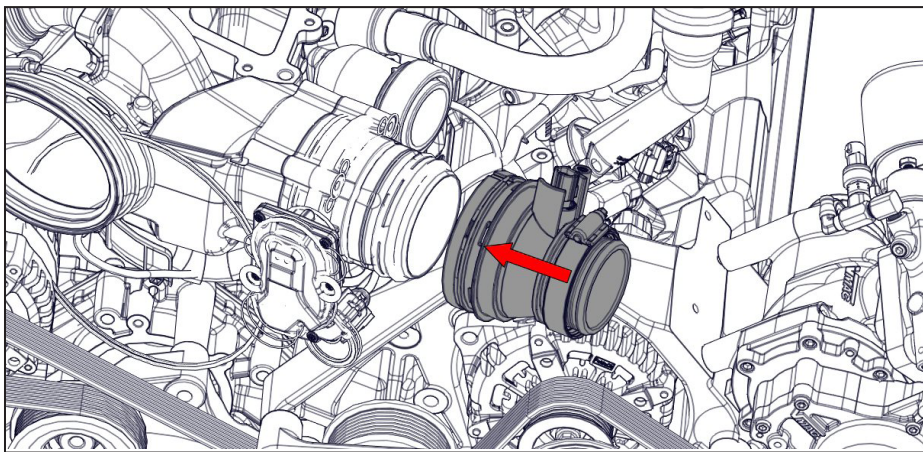

Figure 95 — Installing the CAC hoses
- ☐ Remove the quick connect fitting from the OEM hose and reinstall it on the vehicle. Save the hose clamp for reuse (Figure 95).